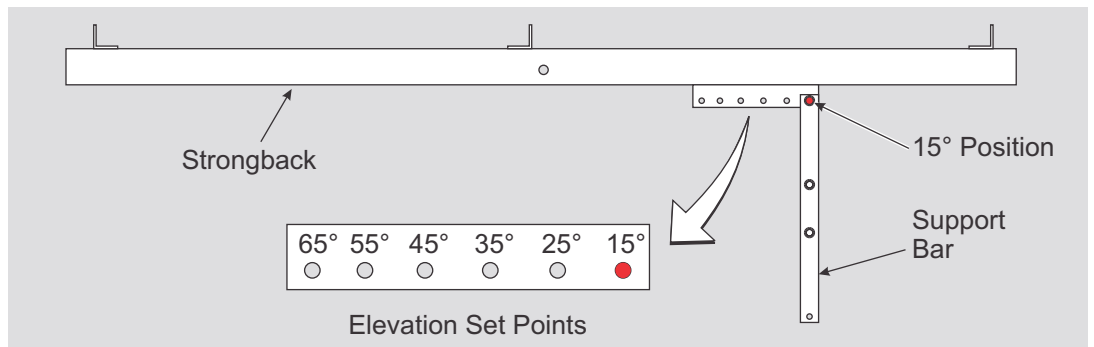

Figure 2-1: Positioning Support Bar
- A. Remove the Support Bar from the Strongback and re-install in the 15° elevation set point. Secure with the 3/8" or 1/2" hardware and finger tighten. (See Figure 2-1)